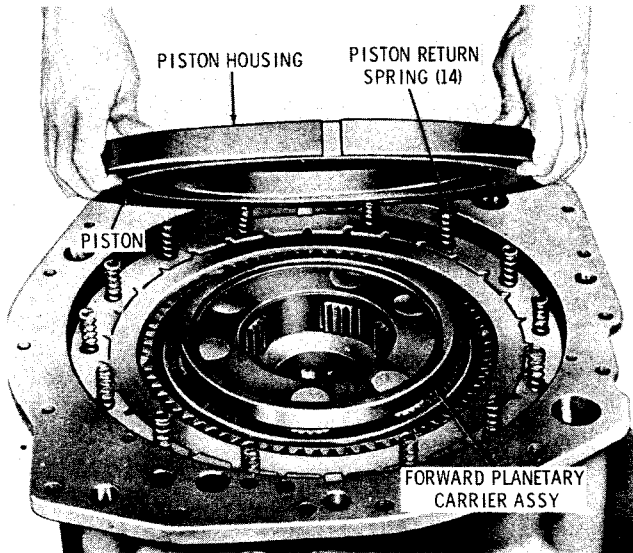

Fig. 5-25. Removing forward clutch piston housing (5630 models)
(2) Remove the piston housing (fig. 5-25). Remove the piston from the housing. Refer to paragraph 6-15 for piston rebuild procedures.
(3) Remove 14 piston return springs and the forward planetary carrier assembly (fig. 5-25). Refer to paragraph 6-16 for carrier rebuild procedures.